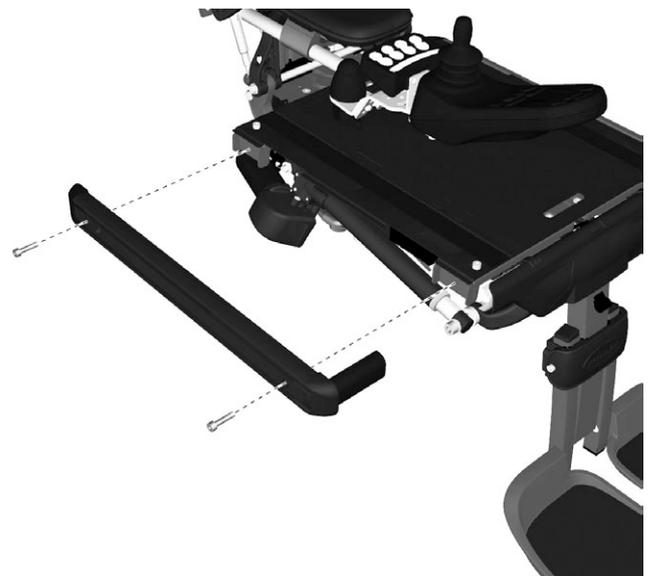

Figure 243. The UniTrack rails are fixed in place with two screws each.
3. Remove the UniTrack rails which are each held in place by two screws. See fig. 243.